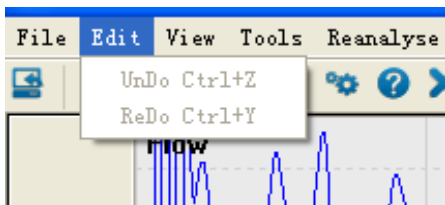

Figure 5-4-2
2. There are two menu options in the “Edit” menu: “Undo Ctrl+Z” and “Redo Ctrl+Y” (as Figure 5-4-2). Click the options to undo and redo the waveform mark.